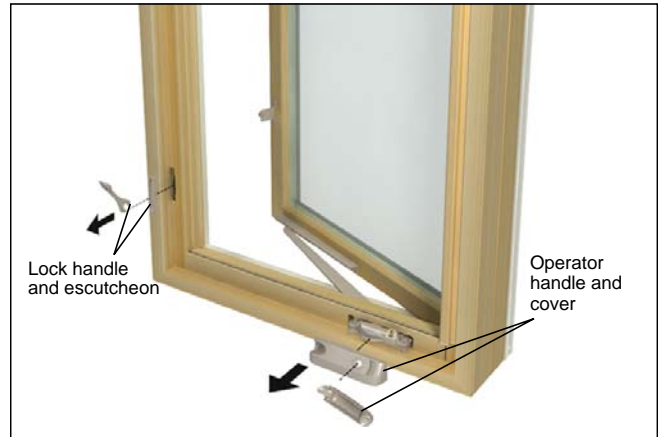

Figure 1
1. Unlock and open the sash. Using an Allen wrench, remove the operating handle and handle cover. Grasp the lock handle and pull firmly outward to remove. Detach the top of the lock escutcheon first then the bottom should be carefully removed. Do not remove the escutcheon by pulling it straight outward. Refer to the Marvin UCA/UAWN Supplemental Installation Instructions (19970261) for more information. See figure 1.